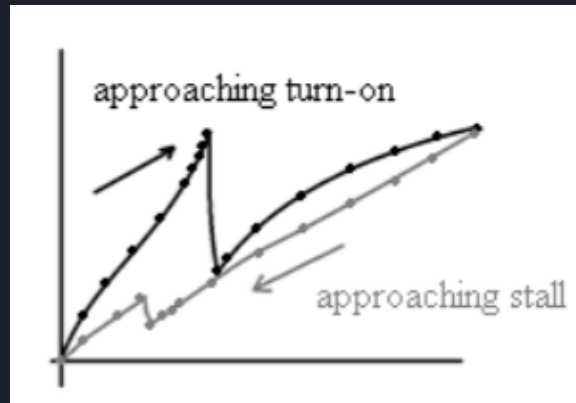

Figure 11.
- For the current waveform, you should be able to see current for a 'while stalled' portion and a 'while moving' portion, similar to the 'approaching turn-on' curve that is shown in figure 11.